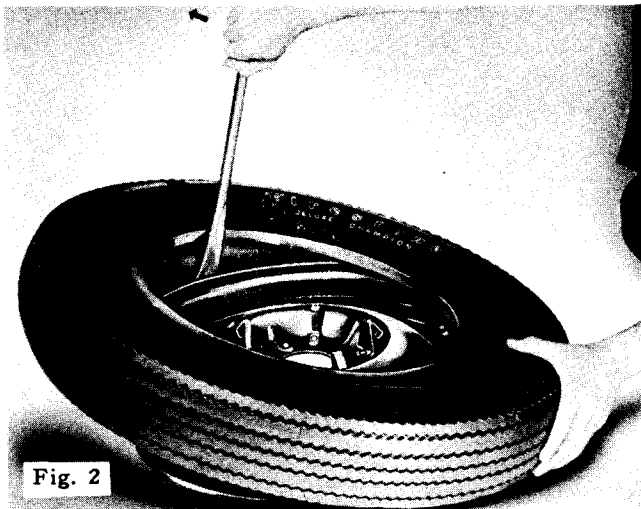

Fig. 2
7. Apply the first bead by pushing a portion of it into the well of the rim and then working the remaining part over the flange with a tire tool. (See Figure 2.)